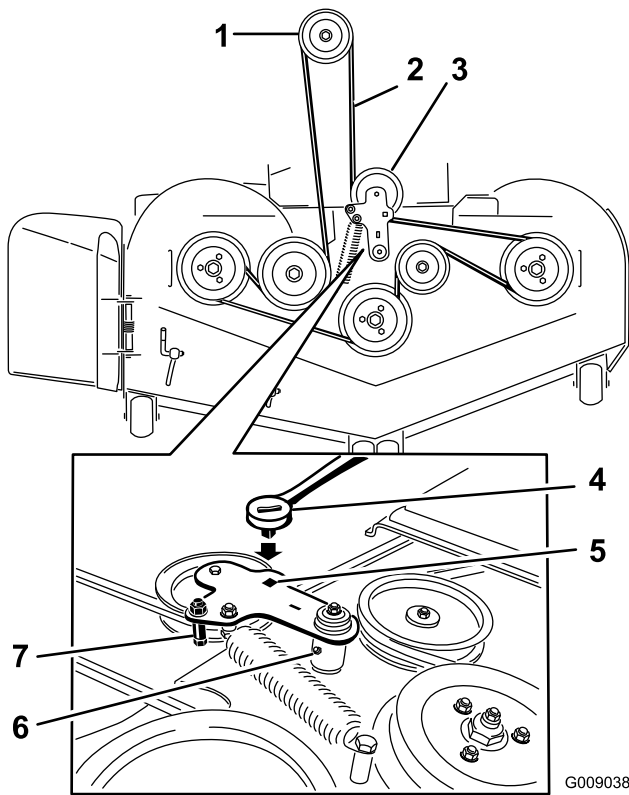

Figure 75
- Use a ratchet in the square hole in the idler arm to remove tension on the idler spring (Figure 75).
- Remove the belt guide on the spring loaded idler arm shown in Figure 75.
- Install the new belt around the mower pulleys and the clutch pulley under the engine (Figure 75).
10. Install the belt guide on the idler arm shown in Figure 75.
11. Using the ratchet in the square hole, install the idler spring (Figure 75).